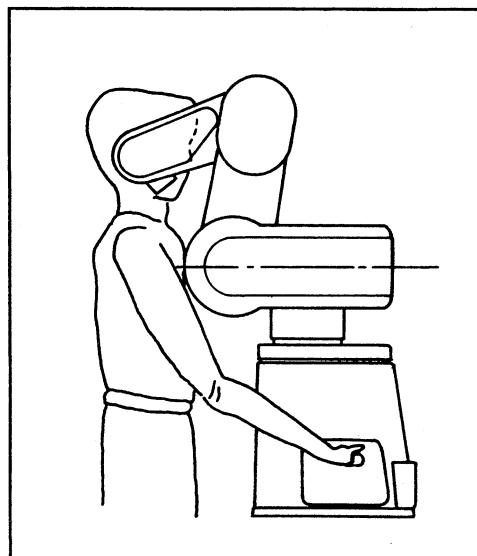

Fig. 1.1.2 Robot Transportation
- (3) Carry the robot by holding the grips (area B) and supporting the hatched portions (areas C, D) by your body. (See Fig. 1.1.2.)
- (4) Brakes are being applied to the arms (areas C, D). Do not force these arms to extend to protect the components.
- (5) Do not remove the arm fixing plate (area E) until the robot installation is complete. This plate protects the arm during transportation. After the robot has been installed, the plate must be removed. Do not forget to remove the plate because it is invisible from the front side.
- (6) The robot fixing plate (area F) allows the robot to be self-standing. This plate must be kept installed until the robot is fixed to a surface plate, etc. and must be installed before transportation.
- (7) The arm and robot fixing plates must be installed before transportation of the robot and stored for future use after they are removed.